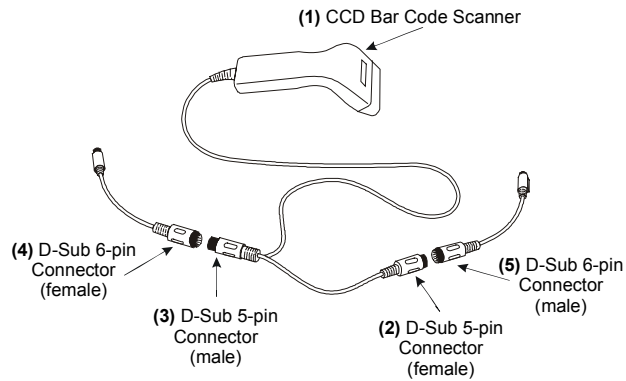

Figure 1: Connecting the Keyboard Wedge Scanner
2. After the connections have been made (see Figure 1), turn on the computer. A beep indicates it is working and installation is completed.
The keyboard wedge connects as shown below (see Figure 1):